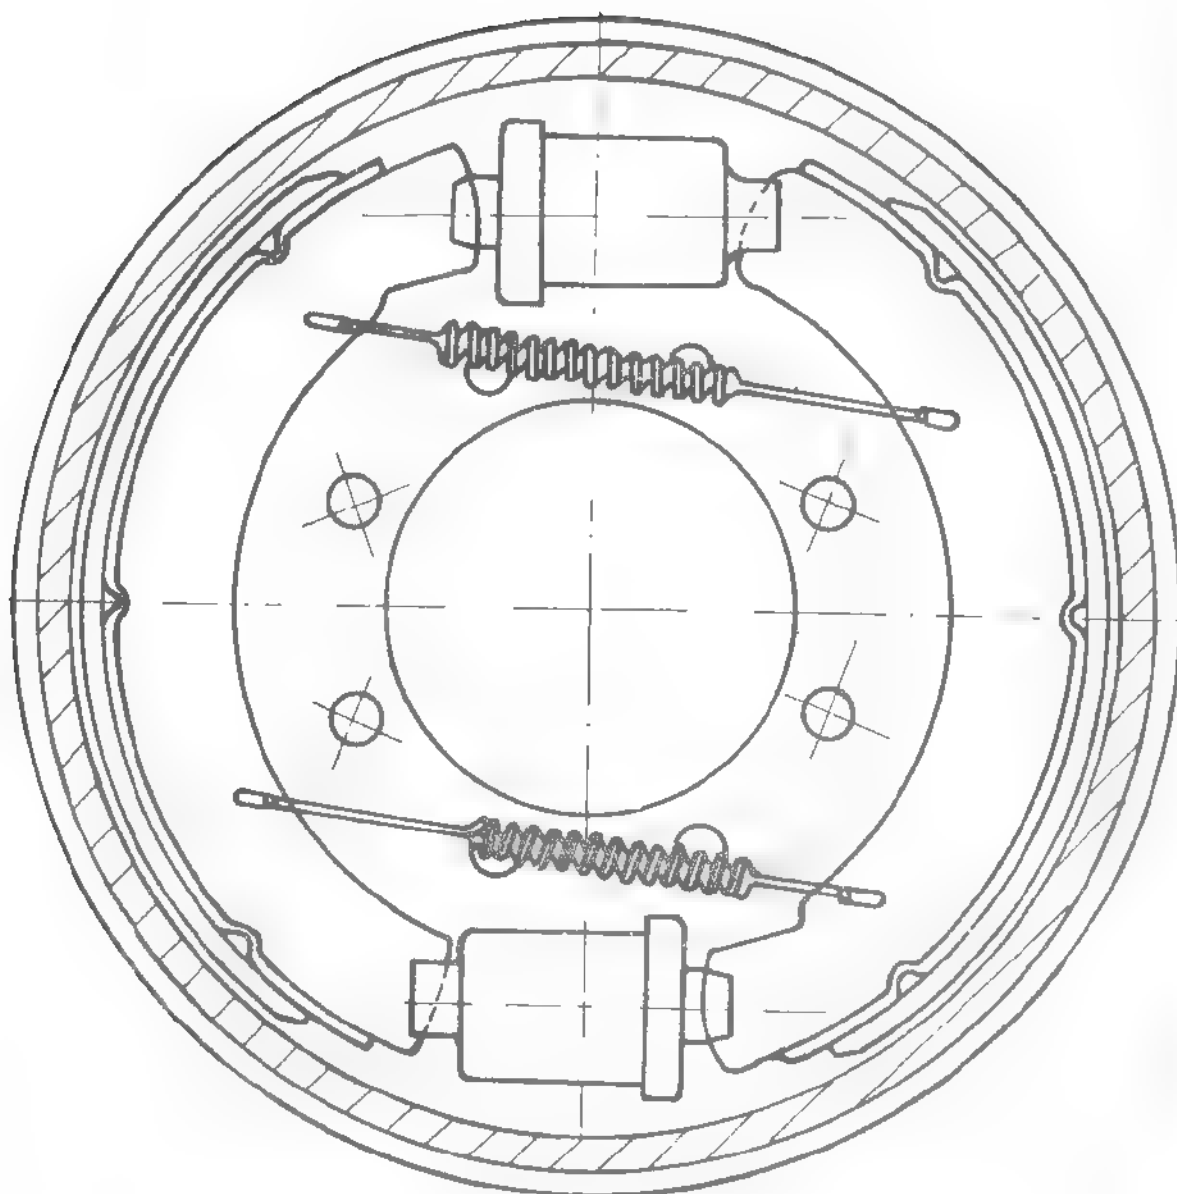

Fig.2.40. FRONT WHEEL BRAKE ANCHOR PLATE
- Push brake shoe (2) (see fig.2.40) outside, against the spring (4) action, untill the shoe rib gets out from cylinder back slot, move the shoe laterally and release it slowly near the cylinder back slot.
- Perform in the same manner with the second shoe, now both shoes are free and can be removed from the brake anchor plate (1).
- On refitting brake shoes fasten firstly the two springs (4) into respective holes of each shoe, introduce on shoe end in the respective cylinder back slot. Then, using still a lever, push the second shoe outside and introduce its end into the slot of the second cylinder.